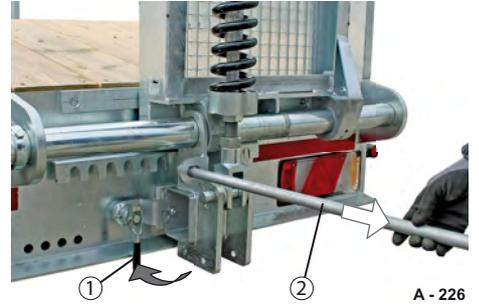

Fig. 85 Securing the track width notches
- ▶ Press the spring lever (Fig. 85/1) downwards.
- ▶ Pull out the operating pole (Fig. 85/2) and set it down safely to avoid damage.